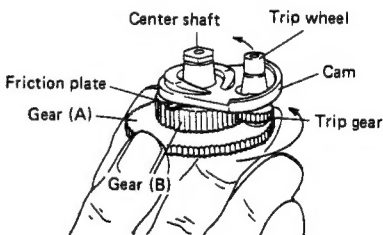

Fig. 4-2 Gear cluster
2. The gear cluster is shown in Fig. 4-2. When the cam is held immovable and gear (A) is rotated in a counterclockwise direction, a small amount of friction is felt, but gear (B) and trip gear also rotate. Note that rotation of the trip gear also rotates the trip wheel. (Fig. 4-3) Also note that when the cam is free to rotate, friction will cause it to rotate in the same direction as gear (A) and (B).
- Turn the worm gear by hand imitating what would occur if the START/STOP button were depressed causing the motor to rotate the gear. Worm gear rotation causes gear (A) to rotate, and the gears shown in Fig. 4-2 and 4-3 of item 2 above all turn in a clockwise direction.
- As the assembly rotates further, the trip wheel and PU plate attached to the tonearm shaft come into contact, creating the same condition as occurred in item 2 where the cam was held in an immovable position. Continued rotation of the trip wheel causes the PU plate attached to the tonearm shaft to turn.